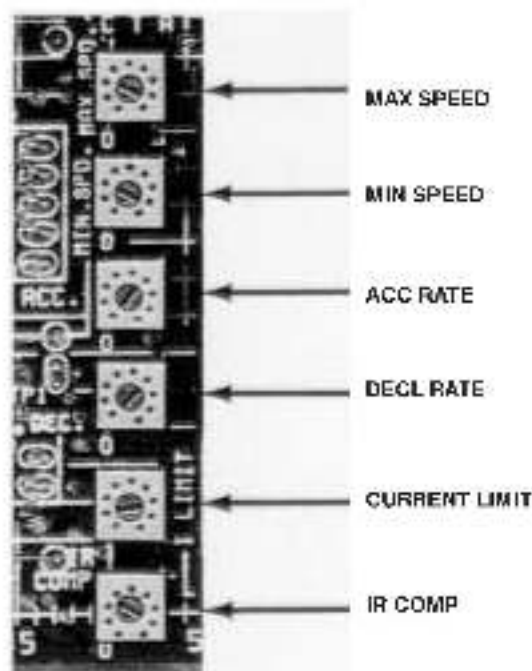

Figure 4.4 – Regulator Module Pots
4.3.1 Regulator Module Pots – The Regulator Module has six adjustable potentiometers mounted on it. (Refer to Figure 4.4.) They control the following functions:
Locate the Maximum Speed Potentiometer on the Regulator Module. (Refer to Figure 4.4.) The letters MAX SPD are printed on the Module. Note that CW rotation represents an **increase** in speed. CCW represents a **decrease**.